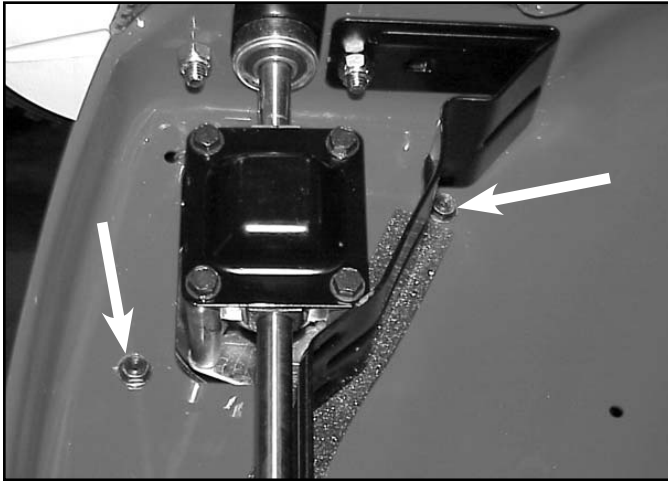

Fig 042
1. Block the front of the mower up. There are two screws that secure the belt cover to the housing. They are accessed from the bottom (Fig. 042).